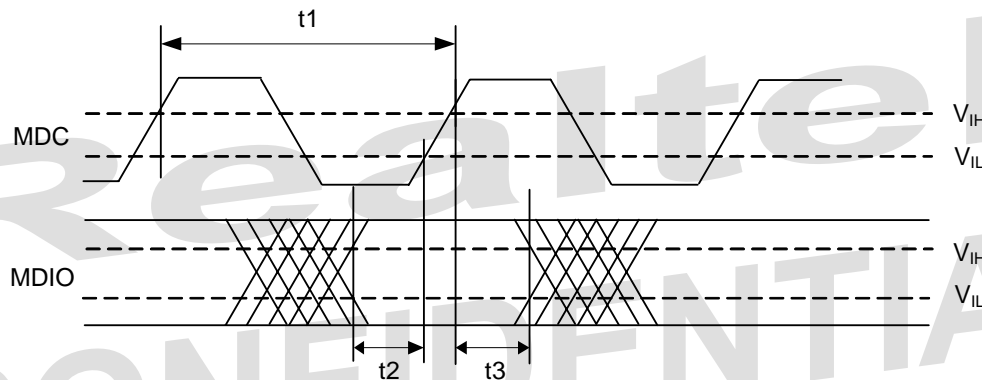

Figure 23. MDIO Sourced by Master (MAC)
- The timing characteristics  $t_1$ ,  $t_2$ , and  $t_3$  (Figure 23) of the Master (MAC) are provided by the Master when the Master sources the MDIO signal (Write command)